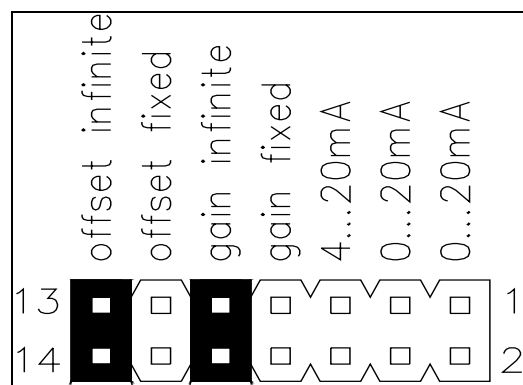

fig. 7: Jumper setting for infinite gain and offset adjustment
- The offset is preset to “offset fix” see fig.7
- The gain is preset to “gain fix” = 1111 see fig. 7.
If gain and offset are adjusted with the trimmers, the jumpers have to be set according to fig. 7. Gain and offset then may be adjusted using the trimmers (refer to „7.6 Calibration of the measuring amplifier“).